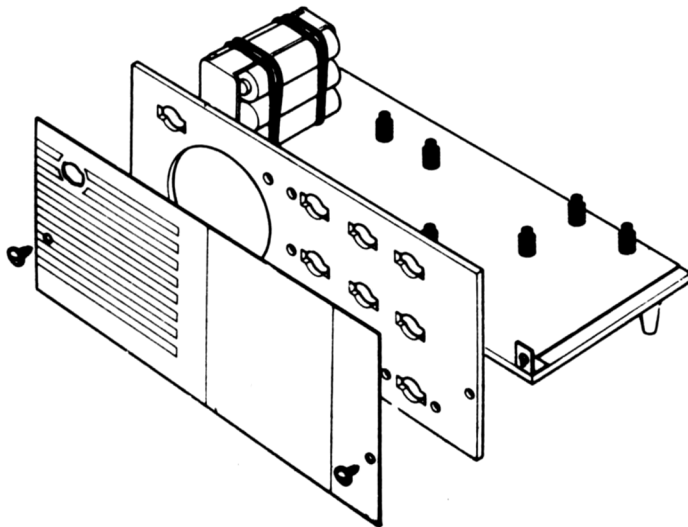

Fig. 3.
Do not push springs through the circled holes. Next place the mounting plate flat on a table and push the large coil springs (21) over the hairpin springs. Fix two brackets (46) to the mounting plate with two screws (44) and two nuts (33). Finally screw the front card (63) and the front panel (48) to the mounting plate with two screws (45) as shown by Fig.3 and push the legs (47) into the mounting plate.